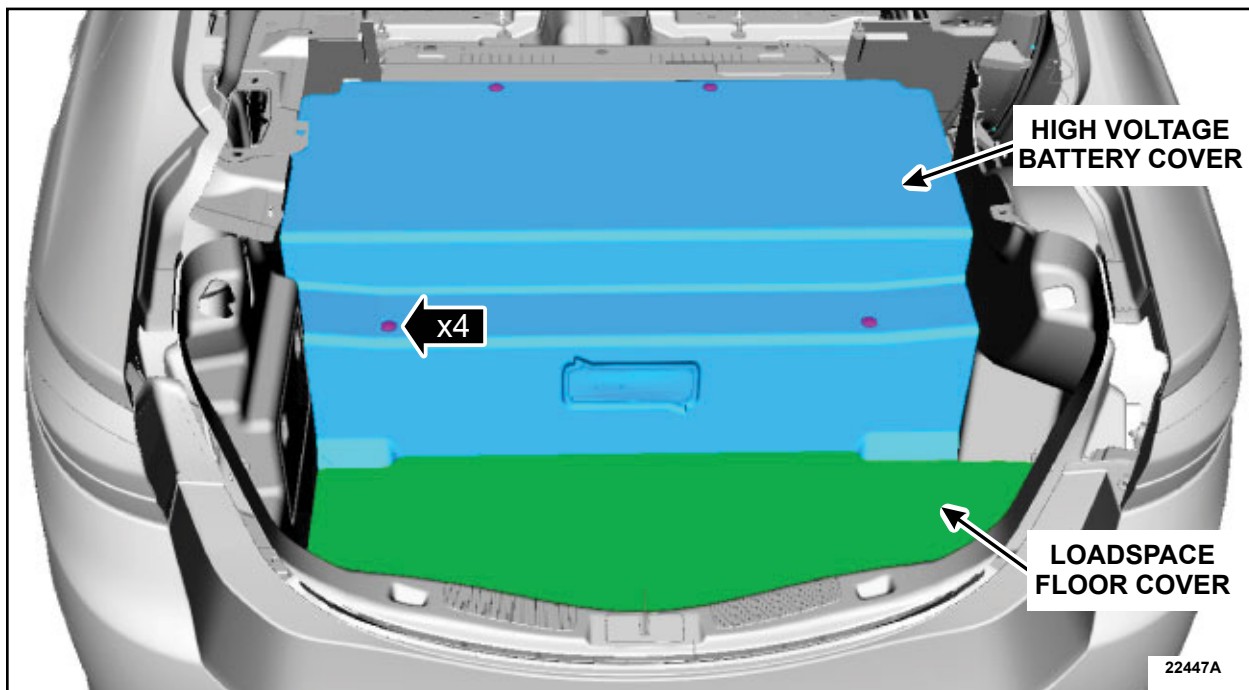

FIGURE 1
2. Disconnect the 12 volt (V) battery. Follow the WSM procedures in Section 414-01.
4. Remove the retainers, the loadspace floor cover and the battery cover. See Figure 1.